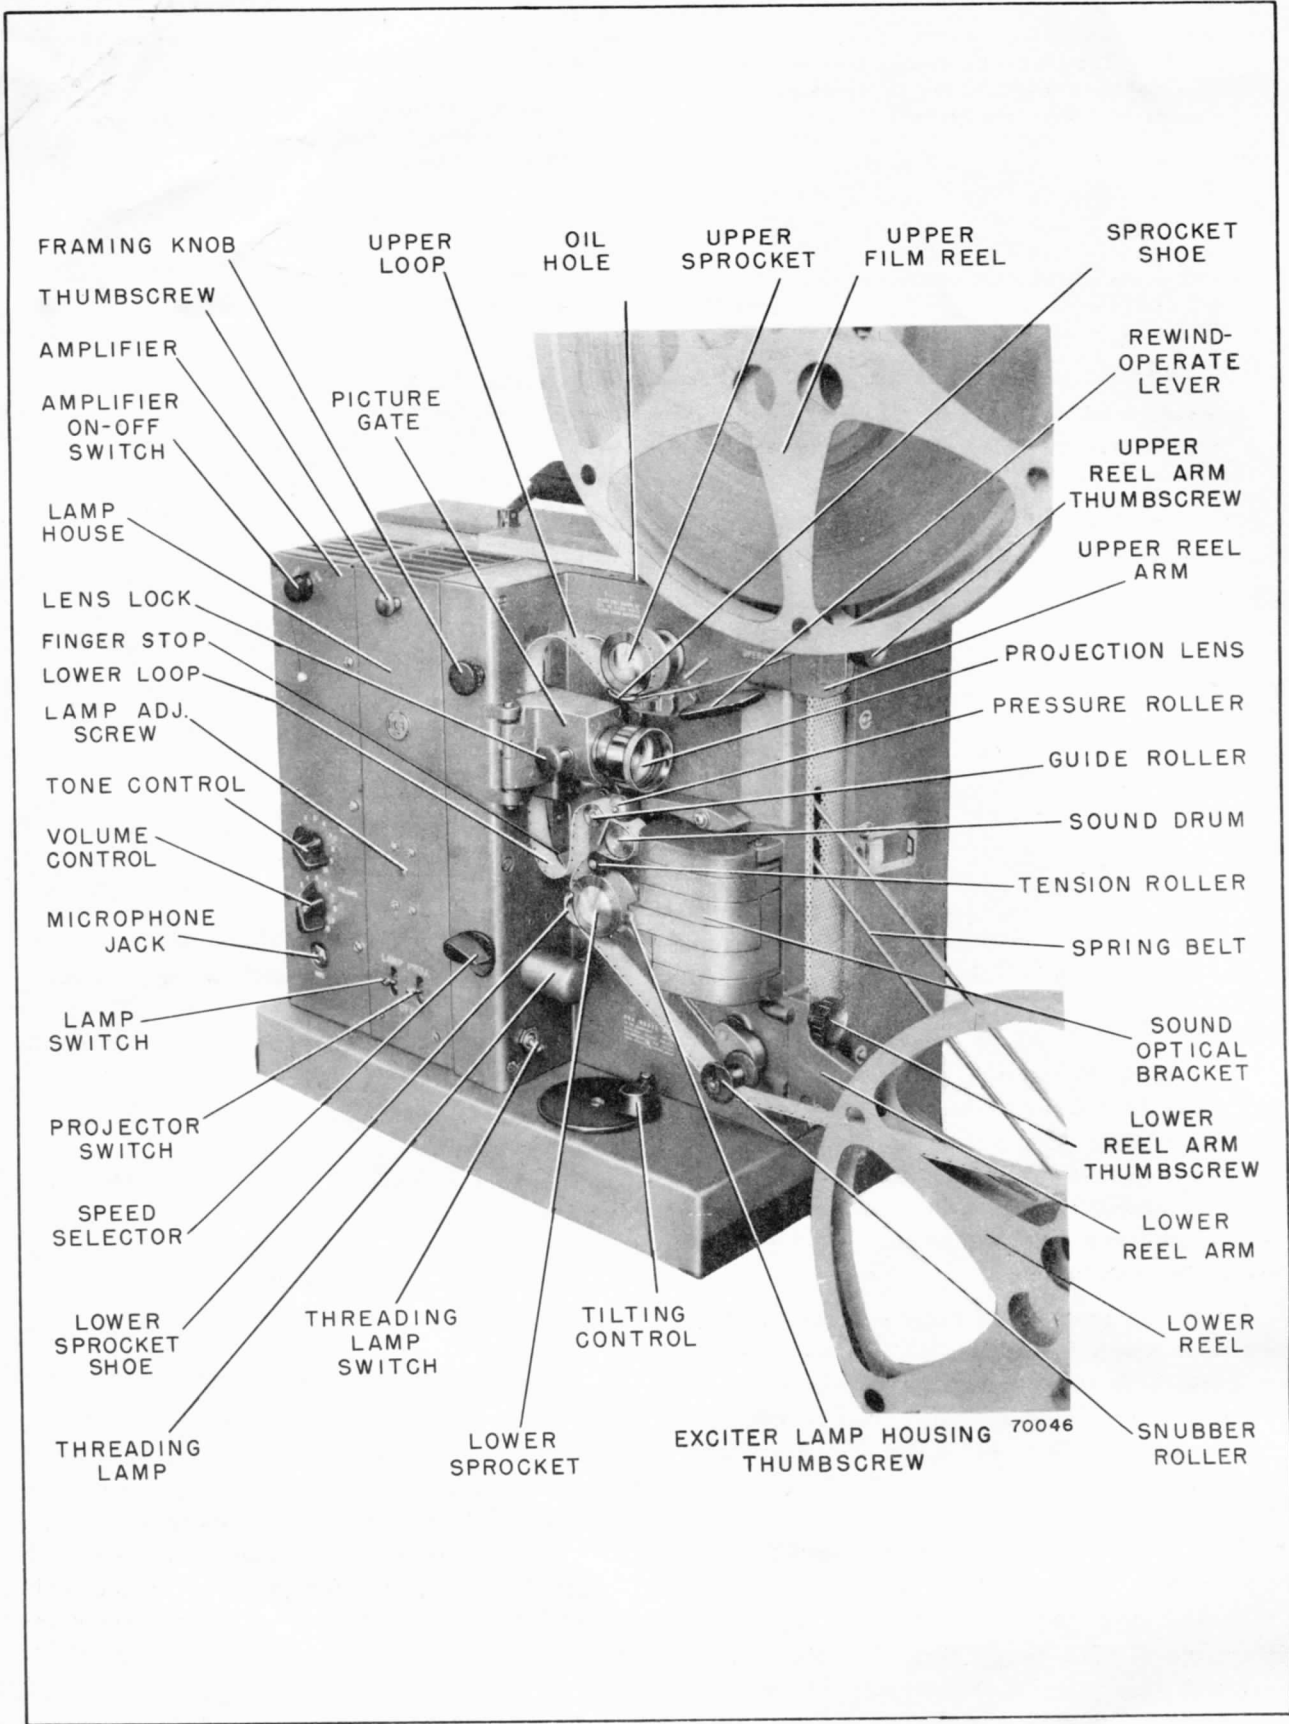

Figure 1 - Operating View of RCA 400 "Senior"
REFER TO FIGURE 1
1. Fasten the reel arms (see figures 1 and 2) in place with the thumbscrews, and pull out the spring belts and put them over the pulleys on the arms. Make sure the belts are not twisted (see figure 8).
Preliminary focusing and certain other adjustments are best done before the projector has been threaded. Refer to figures 1 and 2 for location of controls.
Refer to figures 1 and 2 and thread the projector in the following manner:
NOTE: Occasionally, damaged film may prevent the intermittent pull-down claw from properly engaging the sprocket holes in the film. This may result in the loss of the lower loop. When this happens, the picture on the screen is blurred. The difficulty can be remedied immediately, without stopping the machine, by placing a finger above the film as it emerges from the lower end of the picture gate and quickly pulling down on the film until the finger strikes the finger stop (see figure 1).